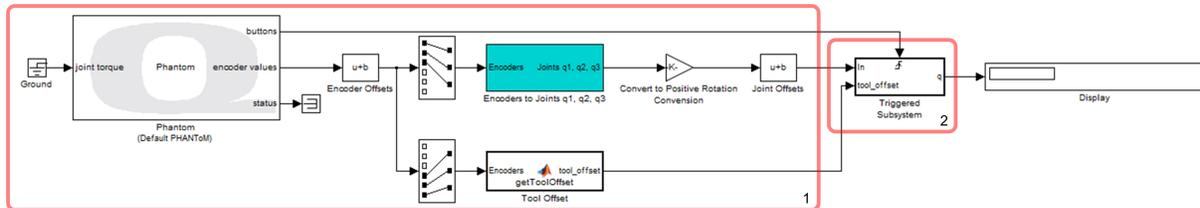

Figure 6.1: Teach pendant model
1. Open **Teach_Points.mdl**, shown in Figure 6.1.